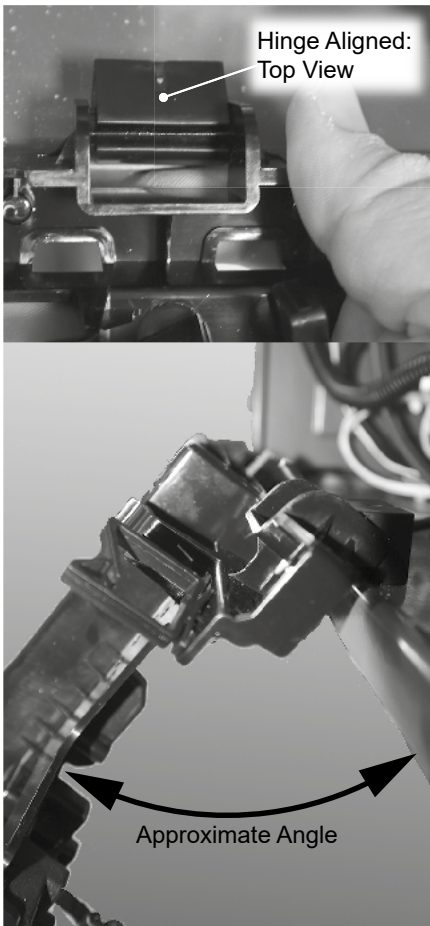

Figure 10 - Removing the control board.
- 26 With all wiring disconnected from the control board, lift control board until its hinges appear as shown in Figure 10.
- 29 Align the hinge tabs on the control board with hinge mounts on the water heater. The control board hinge tabs are oriented that it will connect when rotated to a specific angle. See Figure 10.